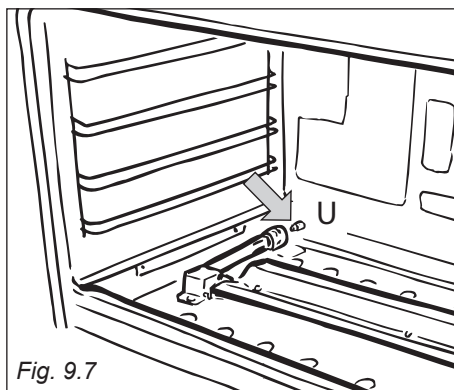

Fig. 9.7
- Withdraw the burner in the manner shown in figure 9.7 and rest it inside the oven. Take care not to damage the wire to the ignition electrode and the safety valve probe.
- Using a 10 mm box spanner, unscrew the injector “U” (indicated by the arrow in fig. 9.7) and replace with a new injector selected in accordance with the “Table for the choice of the injectors”; then replace the burner repeating the above steps in reverse order.